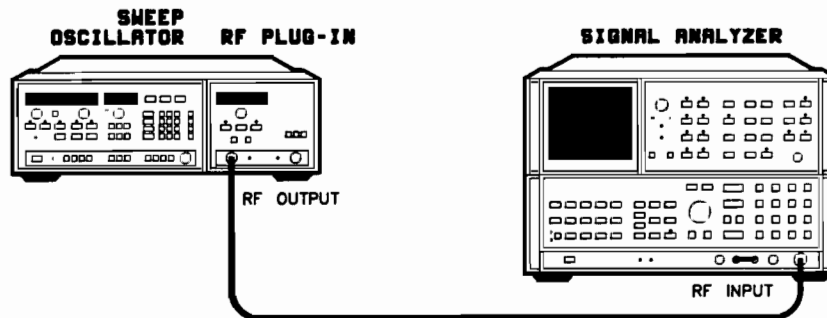

Figure 4-5A. Residual FM Test Setup
- 1A. Connect the equipment as shown in Figure 4-5A. Allow equipment to warm up for 30 minutes.